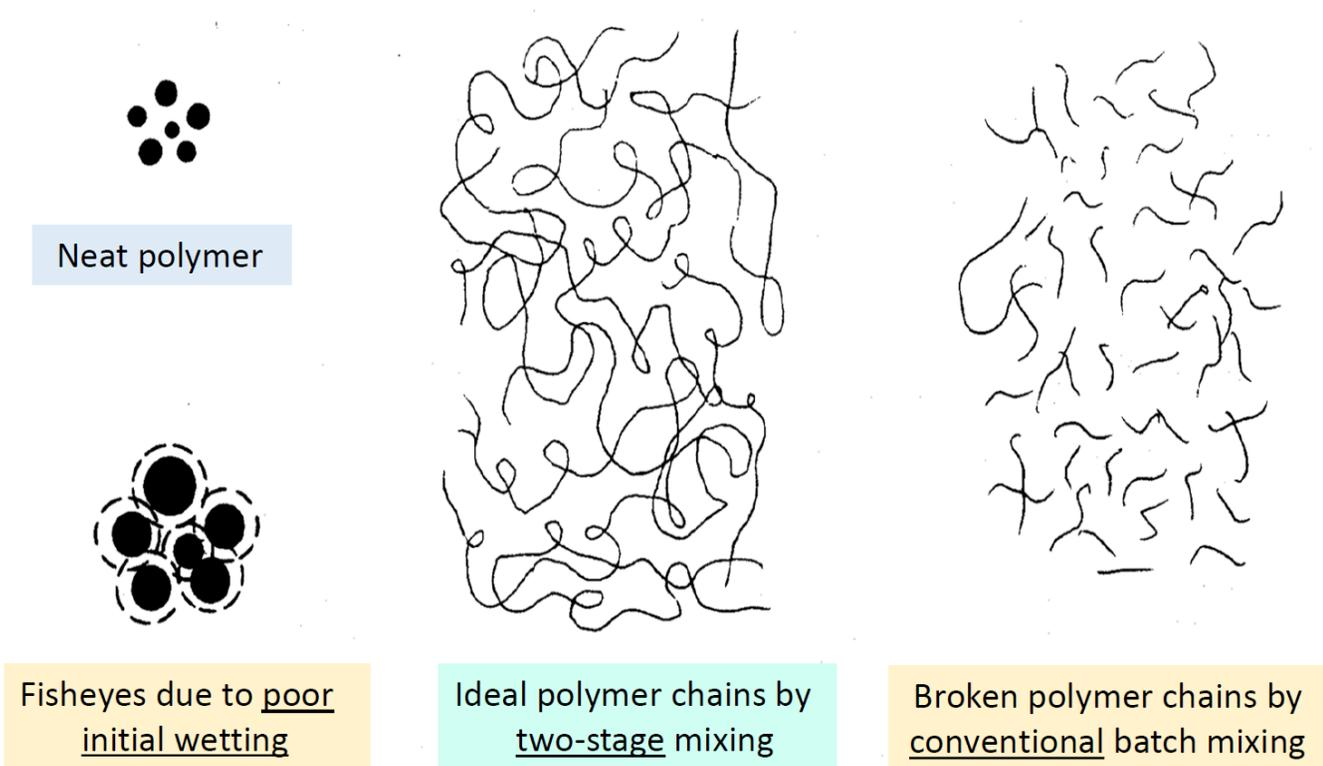

Figure 7. A Depiction of Ideal Polymer Chain Activation Versus Common Pitfalls. Reprinted with permission from UGSI Chemical Feed Inc.
- Two-stage mixing for make-down: While polymers with higher molecular weights are more efficient in flocculation, they also present greater technical challenges in solution preparation than lower molecular weight polymers. The concept of two-stage mixing is well established in the polymer make-down process for dry and emulsion polymer (see Figure 7).